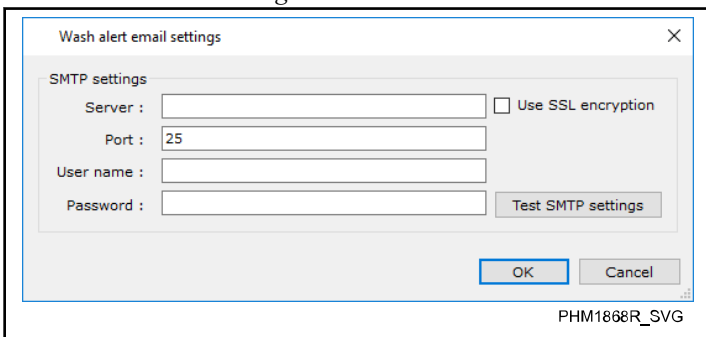

Figure 35
4. In the "WashAlert email settings" window, enter your email provider's information into the "Server", "Port", "User name", and "Password" text boxes. Check the **Use SSL encryption** checkbox. Refer to *Figure 35* .